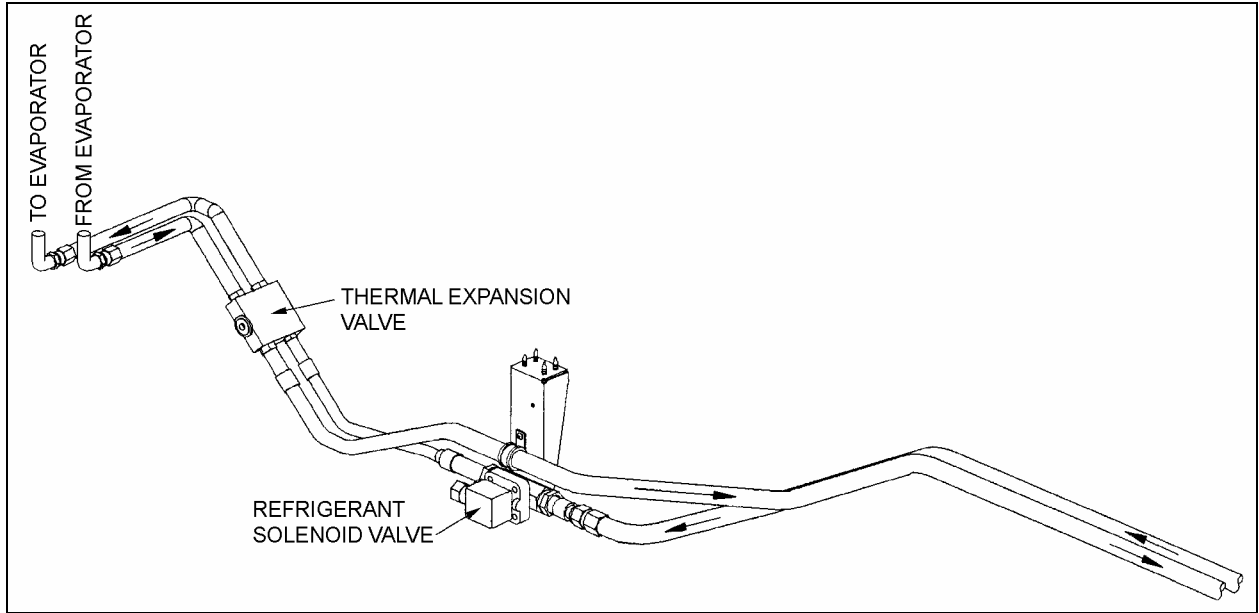

FIGURE 2: FORMER INSTALLATION – FRONT SECTION
7. Disconnect hose and rigid tubing connectors located between driver's section evaporator and refrigerant solenoid valve. Remove thermal expansion valve c/w hoses located upstream and downstream of expansion valve (refer to figure 2).